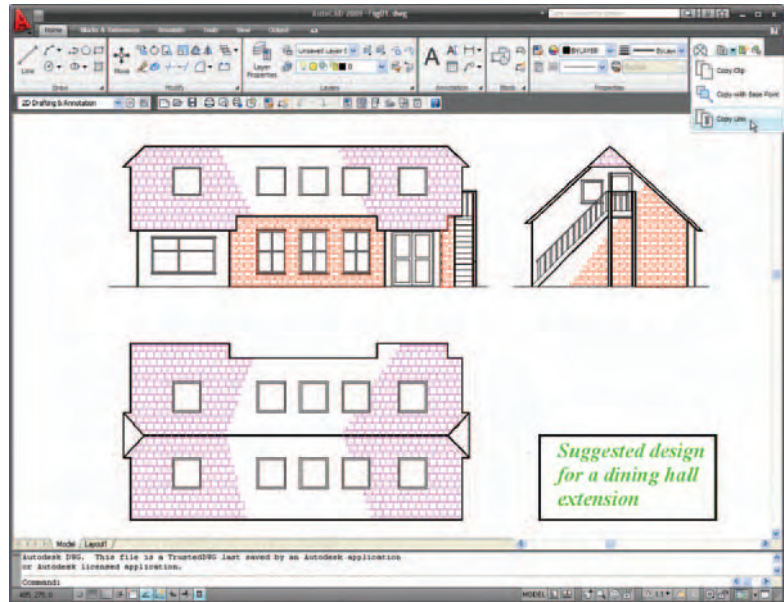

Fig. 10.1 A drawing in the AutoCAD 2009 window showing **Copy Link** selected from the **Home/Utilities** panel
1. Open any drawing in the AutoCAD 2009 window (Fig. 10.1).
2. Click **Copy Link** in the **Home/Utilities** panel as indicated in Fig. 10.1.